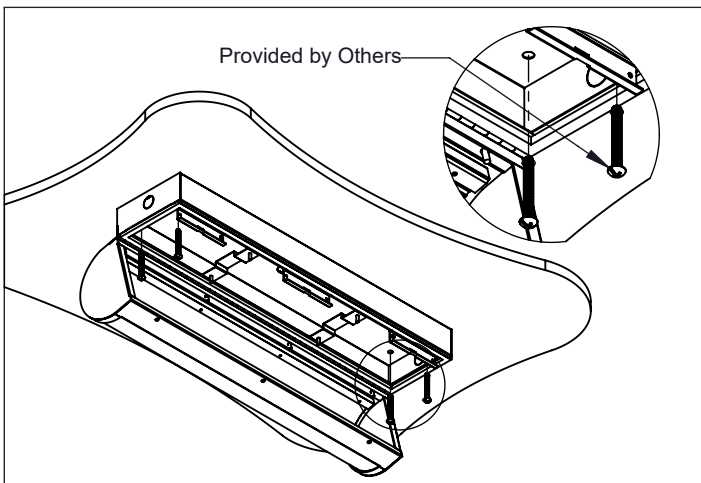

Figure 3
3. Mount in desired location with mounting hardware (by others) (Fig. 3)